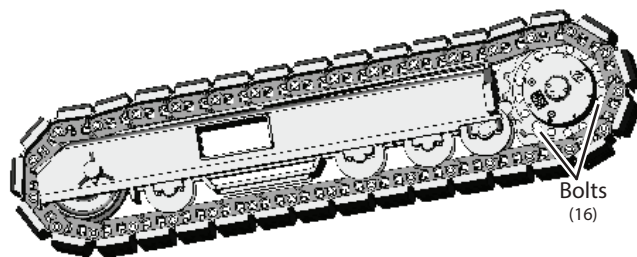

Figure 5-34. Torque Hub
7. Remove bolts holding torque hub to track undercarriage. **(Figure 5-34)**